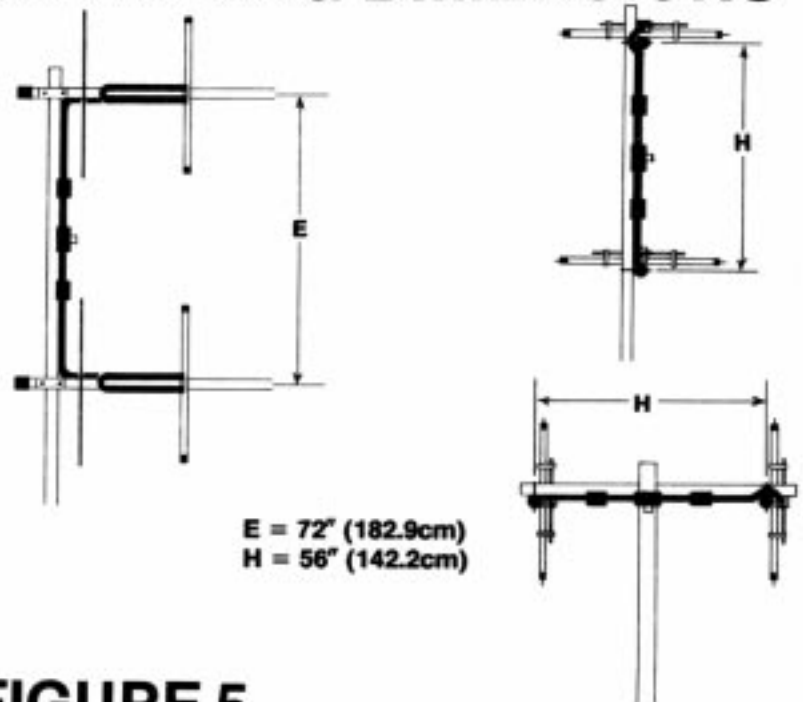

FIGURE 5
**SPACING:** E plane 72" (182.9cm), H plane 56" (142.2cm). See figure 5, on back page.